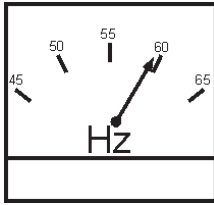

Figure 23. Frequency Meter (Hz)
5. The generator's frequency meter (Figure 23) displays the 60 cycle output frequency in **HERTZ**.